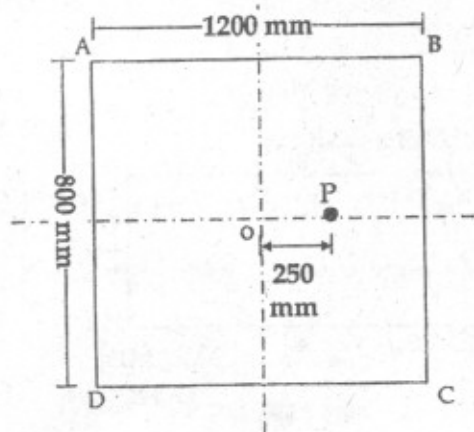

Fig. 10
- (b) A column supports a load of 600 kN as shown in Fig. 10. Find the stresses at the corners of the column at its base. [10]